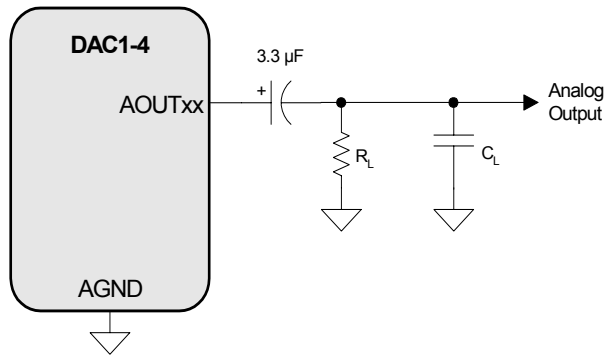

Figure 2. Output Test Circuit for Maximum Load
12. Guaranteed by design. See Figure 2. R_L and C_L reflect the recommended minimum resistance and maximum capacitance required for the internal op-amp's stability and signal integrity. In this circuit topology, C_L will effectively move the dominant pole of the two-pole amp in the output stage. Increasing this value beyond the recommended 100 pF can cause the internal op-amp to become unstable. See "External Filters" on page 53 for a recommended output filter.